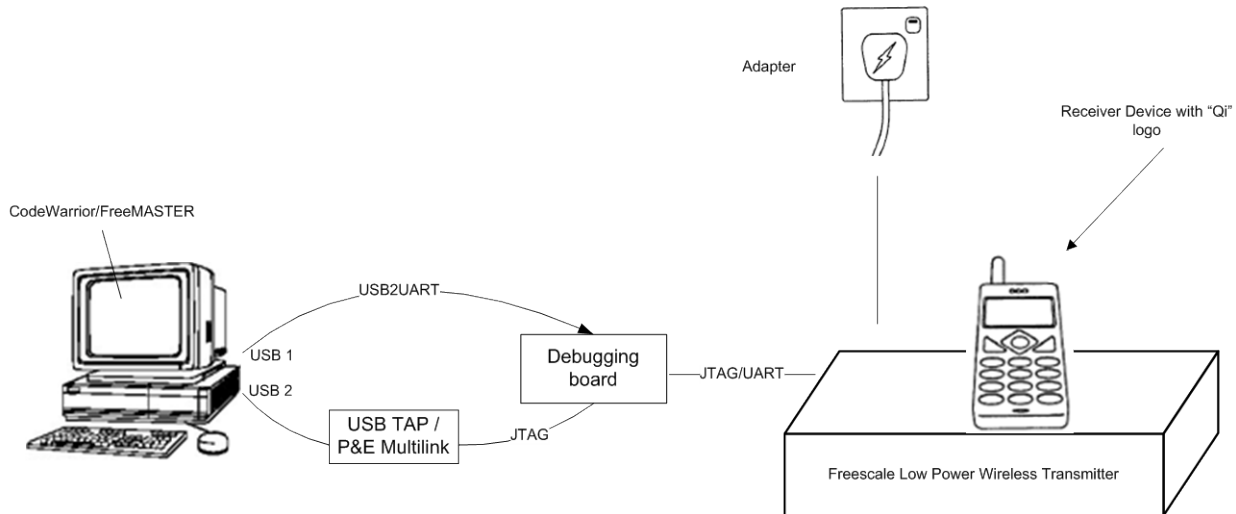
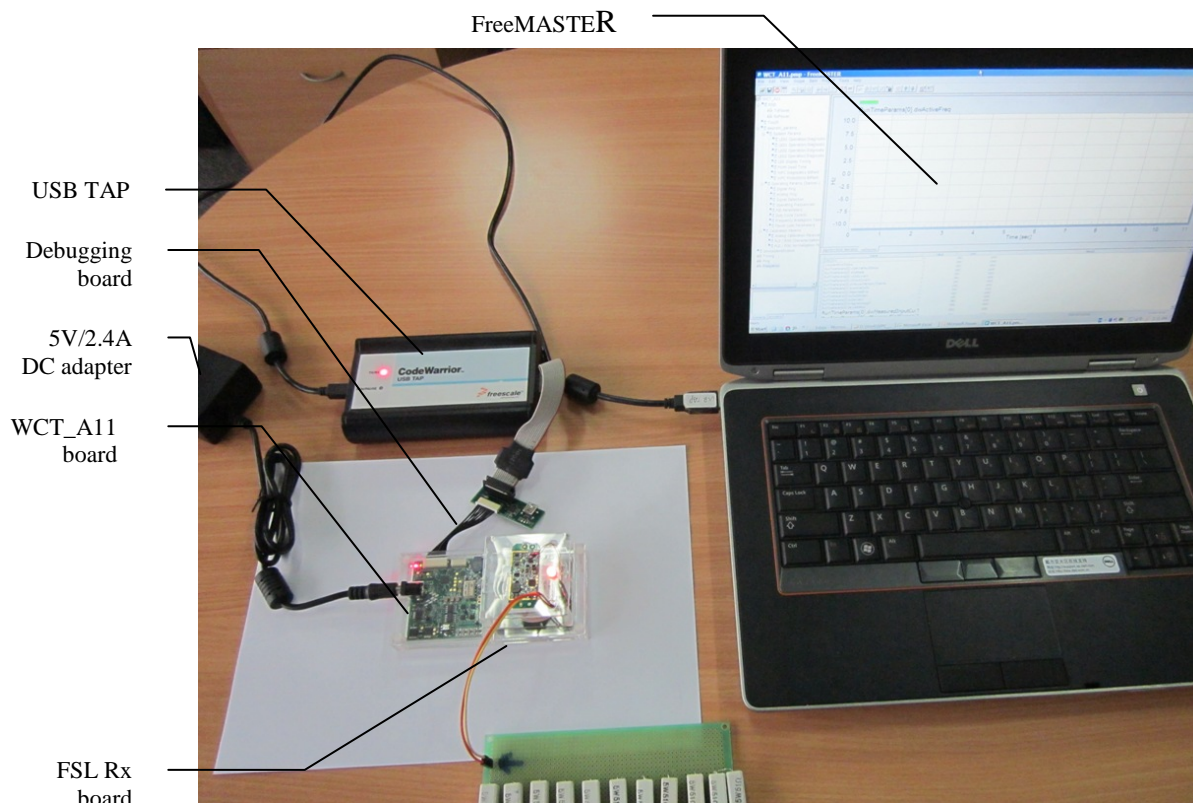

Figure 5 Debugging connections
Figure 6 Developing environment
1. Set up the debugging connection as shown in Figure 5. The debugger and debugging board is between the PC and Tx board.
Figure 5 shows the connection and Figure 6 shows the real image.